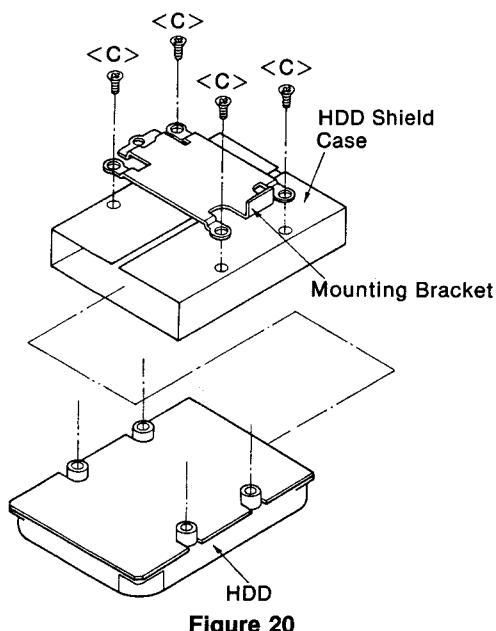

Figure 20
- (5) Turn over the HDD and remove four screws <C> ($2.8\phi \times 5\text{mm}$) from the mounting bracket of the HDD as shown in Figure 20.
- (6) Remove the HDD shield case from the HDD as shown in Figure 20.